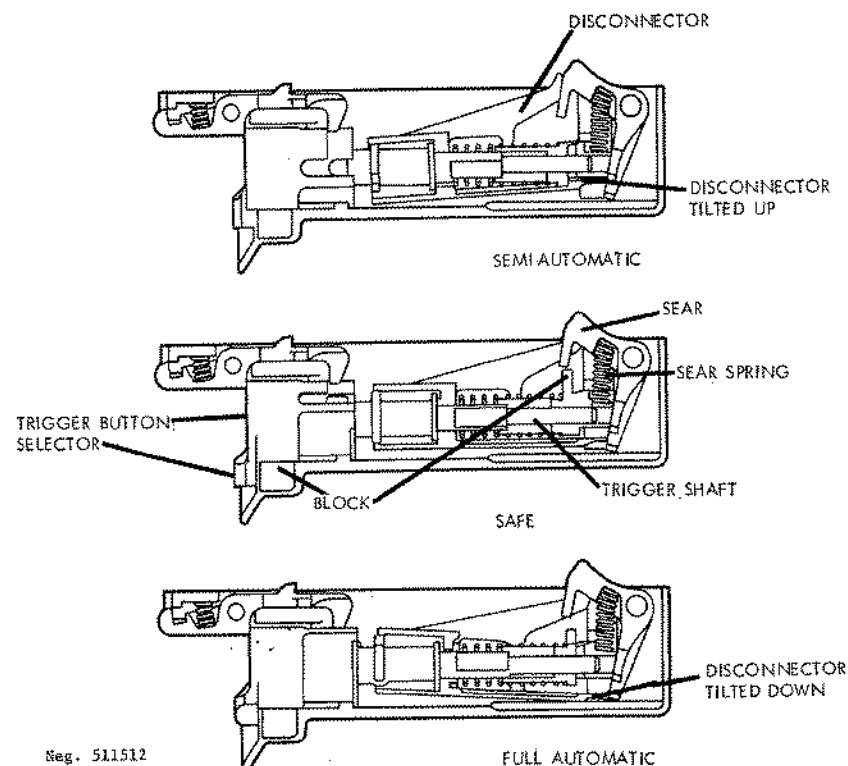

Figure 213. ZB-37 trigger mechanism.
f. By rotating a selector on the rear of the trigger button, the trigger mechanism can be set both for fully automatic or semiautomatic firing, and for safe. When the mechanism is set for semiautomatic fire (fig 213), rotation of the selector allows the disconnecter to tilt upward. The disconnecter moves forward when the trigger button is pressed forward, and when this happens, the forward end of the disconnecter bears against the lower arm of the sear and causes the sear to rotate and release the slide. As the slide goes forward, it strikes the upper projection of the disconnecter and forces the whole disconnecter to swing downward. When the disconnecter contacts the sear, it does so just above a large hole in the lower arm of the sear. When the disconnecter is depressed, it enters that hole, and the sear immediately snaps back into position to intercept the slide; thus only one shot is fired. To fire a second shot, the trigger button is released, and the disconnecter moves rearward and raises up to where it can contact a solid section of the sear. When the selector
is turned for automatic fire (fig 213), the disconnecter is depressed so that the sear under the hole is contacted and the slide cannot strike it. Pressure on the trigger button will again cause the sear to rotate, but because the disconnecter is located below the hole where nothing touches it, the sear remains depressed, and the gun continues to fire until the trigger button is released. This allows the disconnecter to move rearward away from the sear. The sear then rises to intercept the slide. When turned on safe, the selector causes a block on the trigger shaft to rotate under the sear; this prevents the sear from being depressed and (depending on the slide's position) locks it either to the rear or to the front. A block on the trigger housing under the selector prevents the firing button from being pressed.